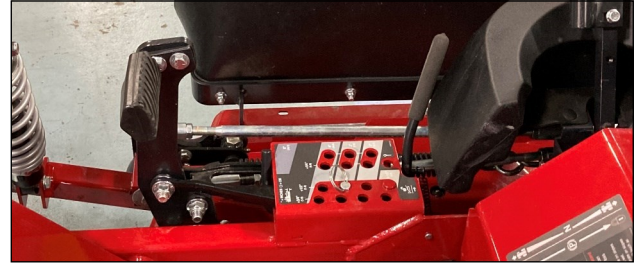

Fig. 4.1 (Set mower deck height to 3-1/2")
- 4.1 See fig. 4.1. Set the deck height for the mower to 3-1/2". This will place the height adjustment lever to a near vertical position for minimal interference with the cab as it's lowered.